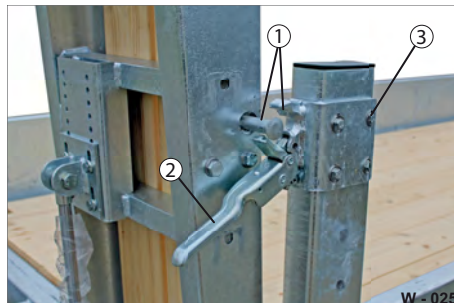

Fig. 20 Lubrication points
- ▶ Unfasten the lock (Fig. 20/2) of the respective ramp.
- ▶ Clean the lubrication/bearing points (Fig. 20/1) with a clean, dry cloth.
- ▶ Check that the screw connections are secure (Fig. 20/3). If applicable, re-tighten them.